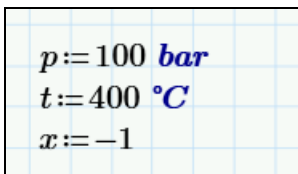

Figure 2.7: Example Mathcad Prime® sheet after input of the given parameters
- Your Mathcad Prime calculation window should look like Figure 2.7.